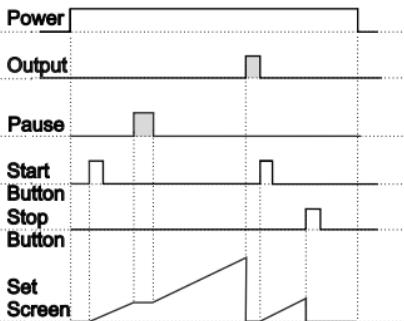

Figure 1.4
1.2.2 If Upcount $dEct = 0$ and $outF$ is $0FF$ the control diagram is shown in Figure 1.4